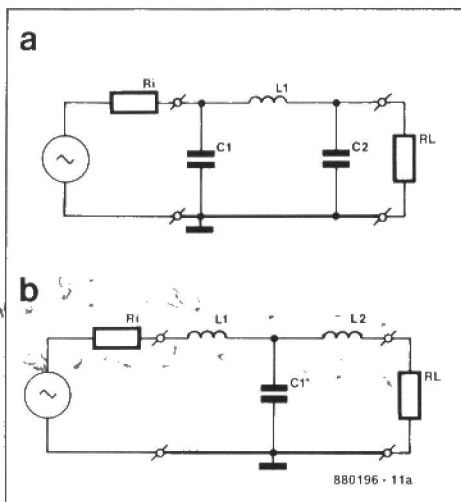

Fig. 12. Passive filters with equal input and output impedances ($R_i = R_L$): (a) π -type; (b) T-type
Fig. 12. At the left the prototype locomotive decoder and two-rail adaptor sandwiched together. At the right a locomotive board constructed with conventional components, which is evidence of the space saving afforded by surface-mount techniques.
- One whose input and output terminating impedances are equal (primarily used in h.f. applications). This type of filter is normally constructed in a π - or T-shape as shown in Fig. 12. A number of sections may be simply cascaded to form a C-L-C-L-C or an L-C-L-C-L network. Note that R_i is the internal source resistance.